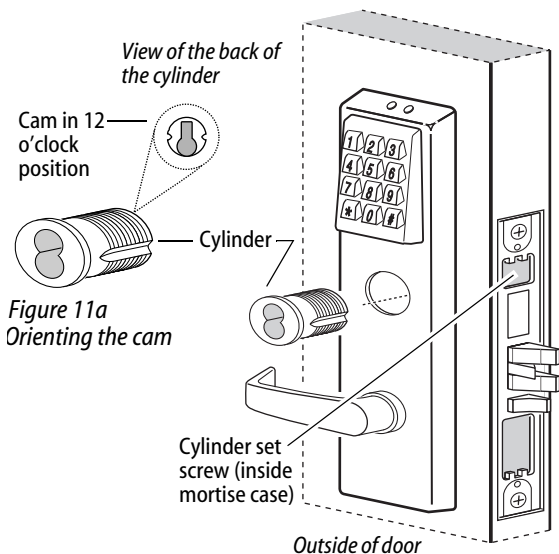

Figure 11a
- 1 Rotate the cylinder cam to the 12 o'clock position as shown in Figure 11a.